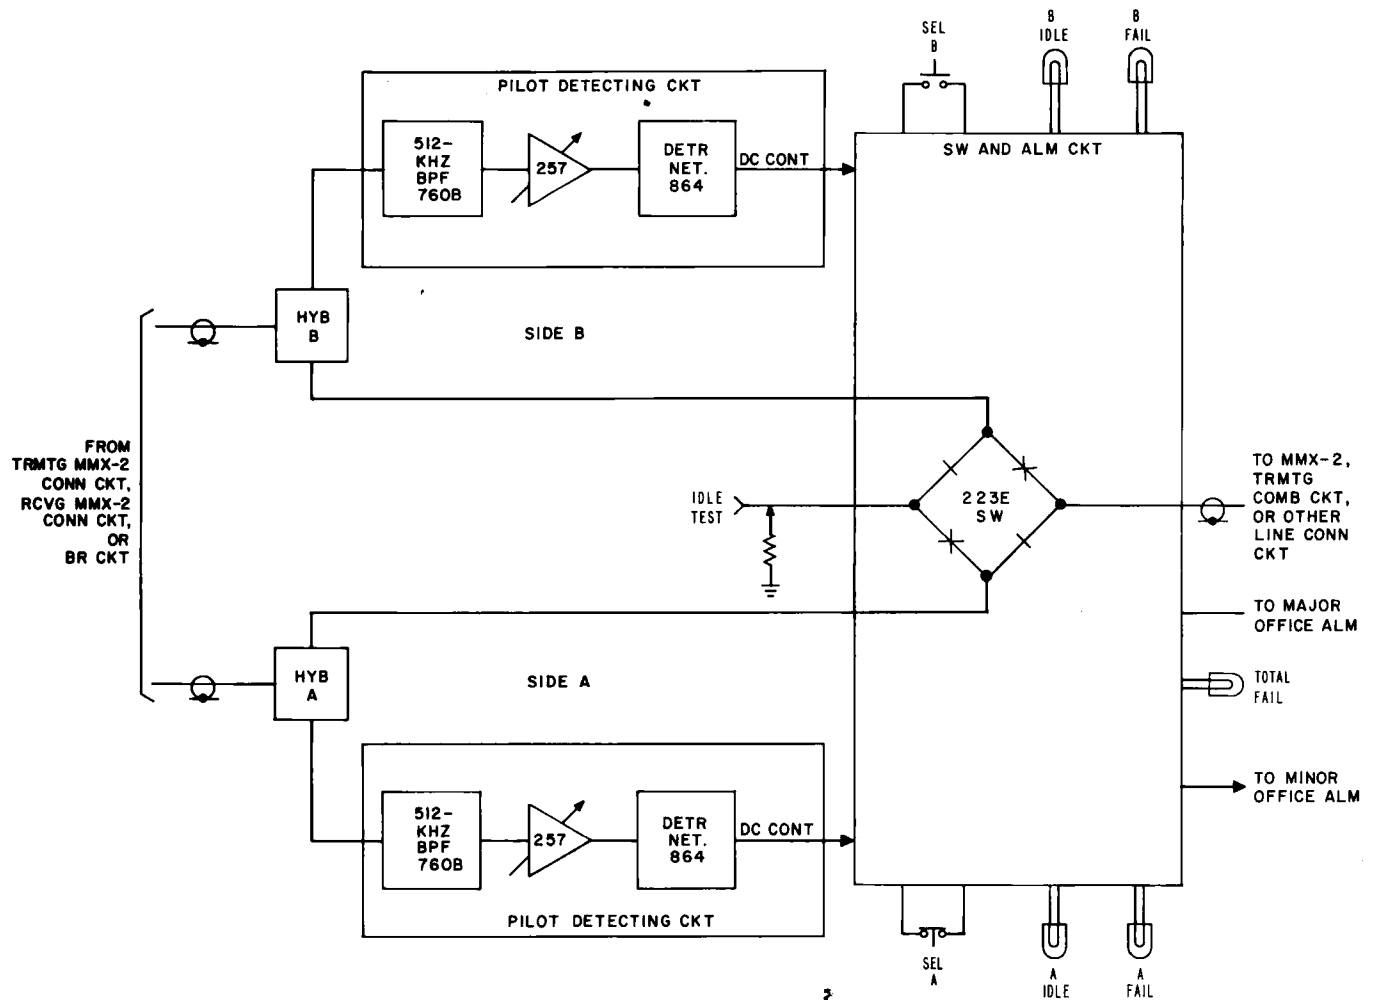

Fig. 22—Transmission Switching Circuit
11.01 A *transmission switching circuit* (Fig. 22) is a part of the line branching panel, receiving MMX-2 connecting panel, and transmitting MMX-2 connecting panel.